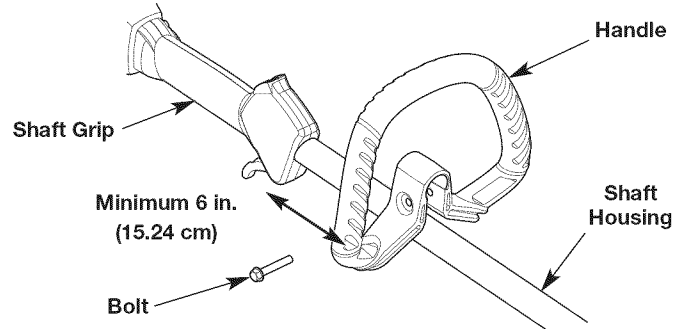

Fig. 3
1. Push the handle down onto the shaft housing (Fig. 3). The bolt hole in the handle should be to the right.
2. Insert the bolt into the bolt hole and push it through (Fig. 3). Tighten the bolt with a 3/8" socket, but do not tighten the bolt completely.
3. While holding the unit in the operating position (Fig. 14), move the handle to the location that provides the best grip. Place it a minimum of 6 inches (15.24 cm) from the end of the shaft grip (Fig. 3).
1. Loosen the bolt with a 3/8" socket (Fig. 3).
2. While holding the unit in the operating position (Fig. 14), move the handle to the location that provides the best grip. Place it a minimum of 6 inches (15.24 cm) from the end of the shaft grip (Fig. 3).